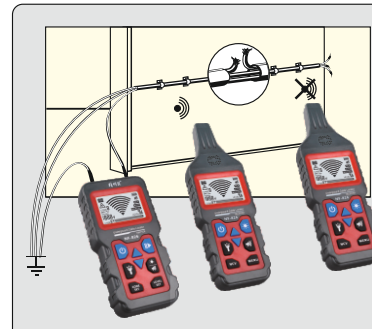

Fig 2-2
In this example, please take a piece of a shielded cable with a cross sectional area of 1.5mm² Provisionally install 5m of this cable along the wall with nail clips at eye level as surface mounting. Make sure that the wall is accessible from both sides. Create an artificial interruption at a distance of 1.5m before the line terminal. The line terminals must be open. Strip the interrupted lead at the beginning of the light shielded cable and connect it via the test leads (provided) with hole ⑩ of the transmitter. Connect terminal ⑪ of the transmitter to a suitable ground. All other cable leads must also be connected to the transmitter and the same ground (See Fig. 2-2).